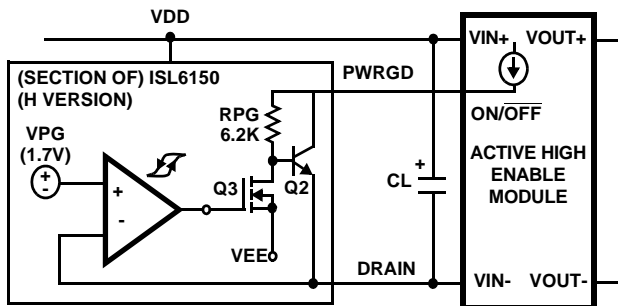

FIGURE 9. ACTIVE HIGH ENABLE MODULE
**ISL6150** (H version; Figure 9): Under normal conditions ( $DRAIN < VPG$ ), the Q3 DMOS will be on, shorting the bottom of the internal resistor to VEE, and turning Q2 off. If the pull-up current from the external module is high enough, the voltage drop across the 6.2k $\Omega$  resistor will look like a logic high (relative to DRAIN). Note that the module is only referenced to DRAIN, not VEE (but under normal conditions, the FET is on, and the DRAIN and VEE are almost the same voltage).
ISL6150 (H version) output that the given current will create a high enough input voltage (remember that current through the RPG 6.2k $\Omega$  resistor generates the high voltage level; see Figure 9).